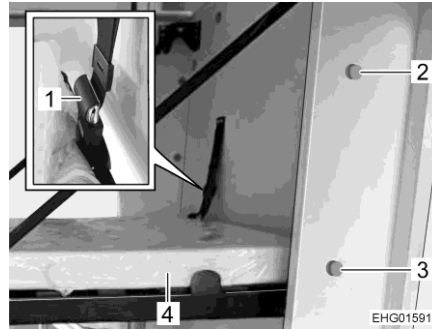

Fig. 92 Folding bed
- Pull the upper release knob (Fig. 92,2) and carefully fold down the folding bed (Fig. 92,4) until it clicks into the lower lock in a horizontal position.
- Secure the retaining belt (Fig. 92,1) from the side wall to the folding bed.
- Pull the lower release knob (Fig. 92, 3) and carefully fold the bed upwards. Ensure that no limbs are trapped as you do so. The bed must engage in the upper lock in the vertical position.